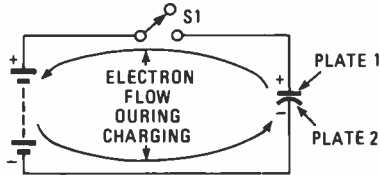
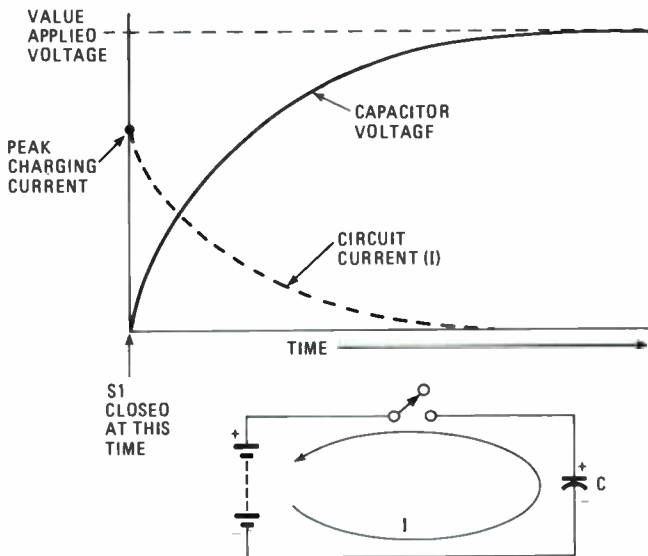
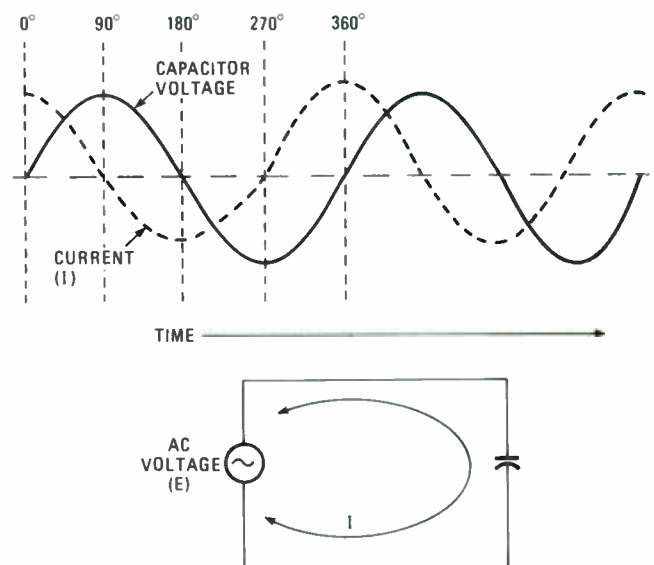

Fig. 3—Capacitors are charged by electrons flowing from a power source. In this instance, a battery is the power source.
Fig. 8—The charging current for a capacitor leads the voltage, being greatest at the moment power is applied.
Fig. 9—When the power source is AC, the current leads the voltage by 90° throughout the entire cycle.
The circuit of Fig. 9 shows a 4013 dual flip-flop used as a housekeeping circuit to provide the necessary control over
Fig. 8—By changing the links, the 3-Digit Counter Module can be configured for ripple counting. This is accomplished by using links L5, L6, and L7, and removing links L3 and L4. Refer to the text discussion, Table 1, and Fig. 3.
The time-base clock pulse from the 555/4017 circuit shown in Fig. 9, triggers the 1st 4013 on the negative to positive transition. It also disables the incoming signal on the module Clock Line (7) by using the Carry In (2) as a Clock Disable. The 4013 is connected as a monostable multivibrator by the use of the 10,000-ohm/.001- μ F time-constant components. This creates a narrow pulse that is applied to the Latch Enable (tab 9) of the Counter Module. That action latches and holds the contents of the 4029 counters in the 4511 display driver that in turn displays this number as a readout on the FND500/560.
Fig. 9—Using the Counter Module as a frequency meter is diagrammed here with three time-bases—10-millisecond, 100-millisecond, and 1-second sweeps. The clock signal measured should be a positive-going pulse whose amplitude is not higher than the V_{dd} used by the Counter Module.
4. (dielectric) Some common dielectric materials used in typical capacitors are ceramic, oil, mica, and various kinds of plastics, such as polystyrene. Capacitors are often classified by the type of dielectric used. Now let's take a look at how a capacitor works. Refer to Fig. 3. When switch S1 is closed, the battery is connected to the capacitor. That external voltage source charges the capacitor. The positive terminal of the battery pulls the free electrons from plate 1, thus plate 1 has a
12. (charging, discharging) Refer to Fig. 8. Assume that the capacitor C is initially discharged. When S1 is closed, the battery voltage is applied to the capacitor. At that instant, the charge on the capacitor (the voltage across it) is zero. But instantaneously a high current flows as electrons begin to be pulled off one plate and fed to the other.
13. (opposes) Figure 8 shows the total effect. As the capacitor charges, its voltage increases and charging current decreases. When the capacitor is fully charged to the applied voltage, it completely cancels the battery voltage, thus the current is zero.
15. As you saw in Fig. 8, the capacitor voltage is zero, the charging current was maximum. When the capacitor voltage is maximum, the current is zero. That relationship holds true when an AC voltage is applied to a capacitor. Figure 9 shows a capacitive AC circuit and the current-voltage relationship.
16. (AC voltage) Note in Fig. 9 that the current and voltage are out of phase. That is, the current and voltage do not vary in step with one another. They are shifted by 90°. We say that the current leads the applied voltage (and capacitor voltage) because its peak occurs earlier in time than the voltage. *In a capacitive circuit, the current _____ the voltage by _____ degrees.*